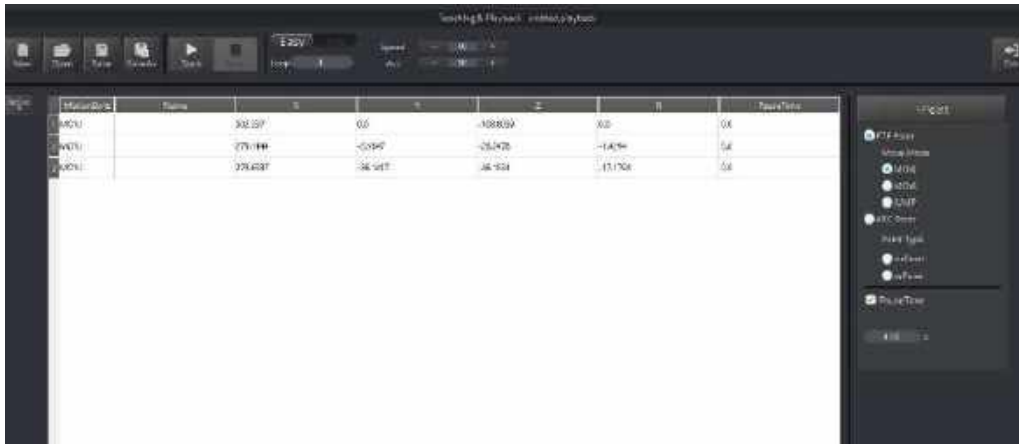

Figure 2.21 The Cartesian coordinates of points B and C
4. Move the robotic arm to other two locations such as points B and C by referring to the method of creating point A above, as shown in Figure 2.21. The robotic arm will save the Cartesian coordinates corresponding to these two points.